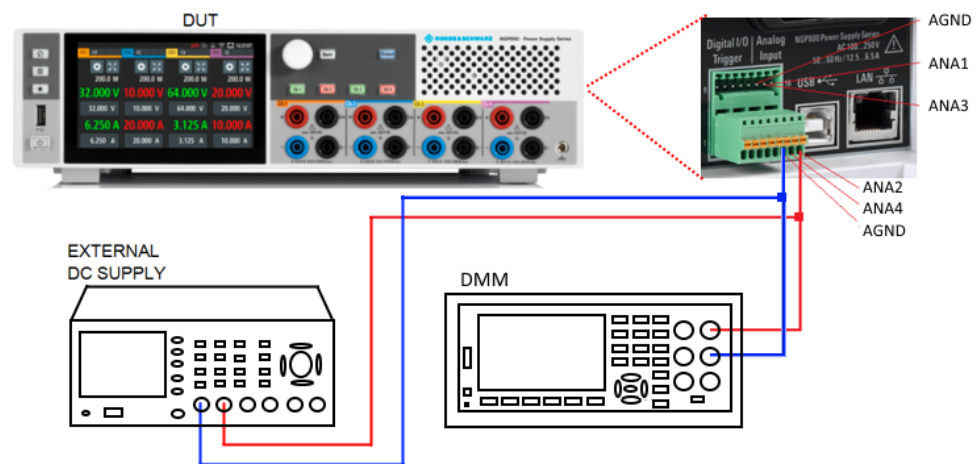

Figure 6-36: Analog input adjustment setup
- Setup the adjustment with instruments illustrated in Figure 6-36.